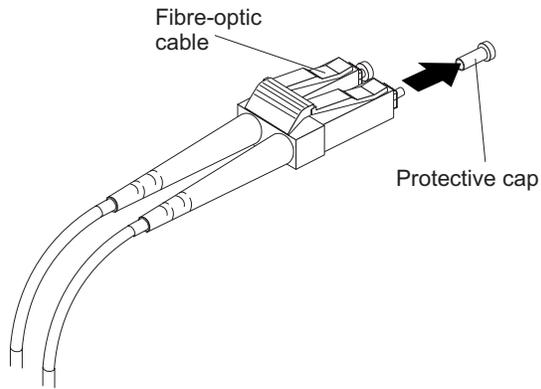

Figure 28. Removing fiber-optic cable protective caps
3. Remove the two protective caps from one end of the LC-LC cable, as shown in Figure 28 on page 42. Save the protective caps for future use.